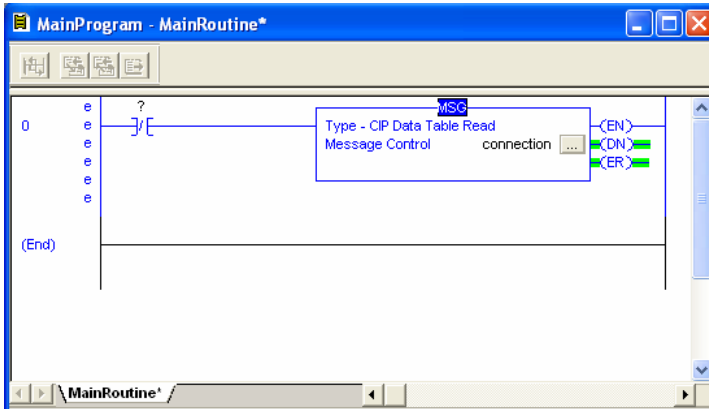

Figure 48: MainRoutine
- e) Click “OK” to close the MSG Configuration dialog. At this stage, MainRoutine should look like Figure 48.